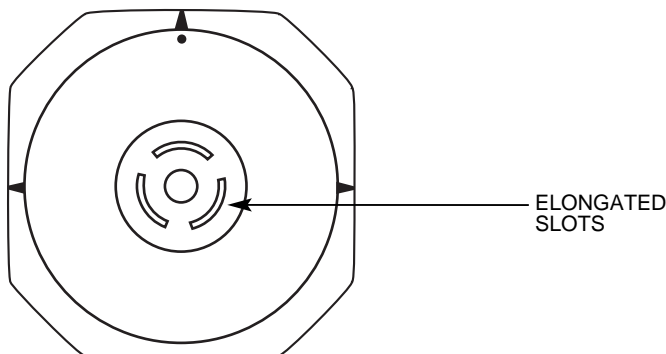

Figure 9B
Check the (3) elongated slots in the top of the fitter to see if they are aligned with the (3) mating screw holes in the fitter mounting plate. If any of the screw holes in the mounting plate are covered by the fitter, rotate the fitter ninety degrees either direction to allow access to the (3) mounting holes in the mounting plate. See Figure 9B.